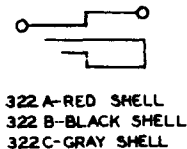

Fig. 16—322-Type Plug
2.15 322A, B, and C: The 322-type plugs (Fig. 16) have the ring and sleeve connected together and are not arranged for cord connections.